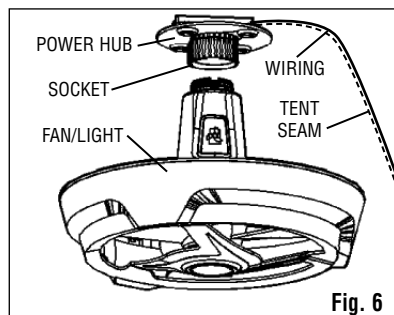

Fig. 6
4. Attach fan/light by inserting threaded end into the socket and turning clockwise until tightened (Fig. 6). Do not over tighten.